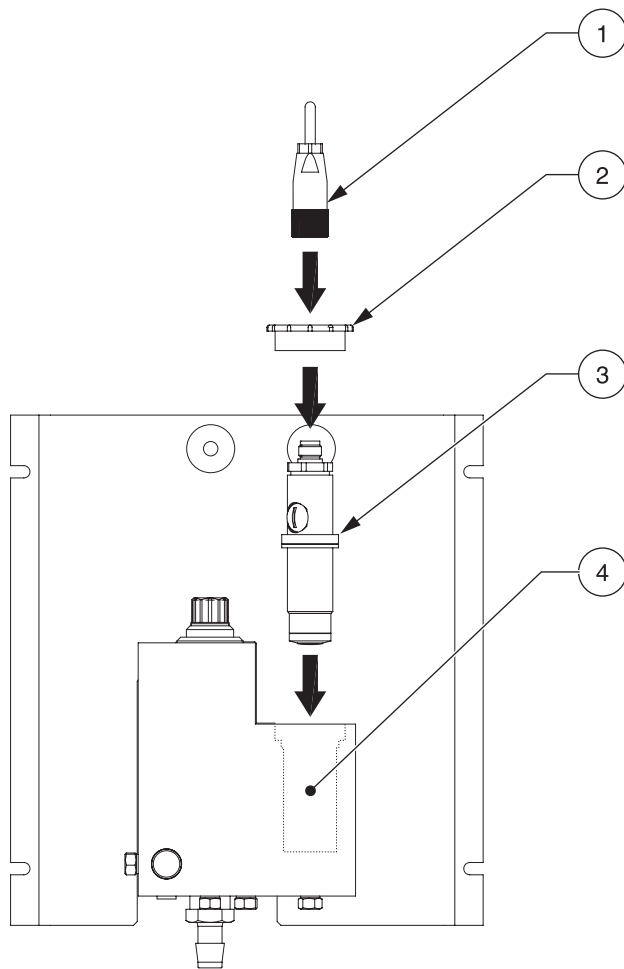

Figure 8 Placing the Probe Into the Flow Thru Assembly¹
1. Remove the probe retaining nut (item 2, Figure 8).